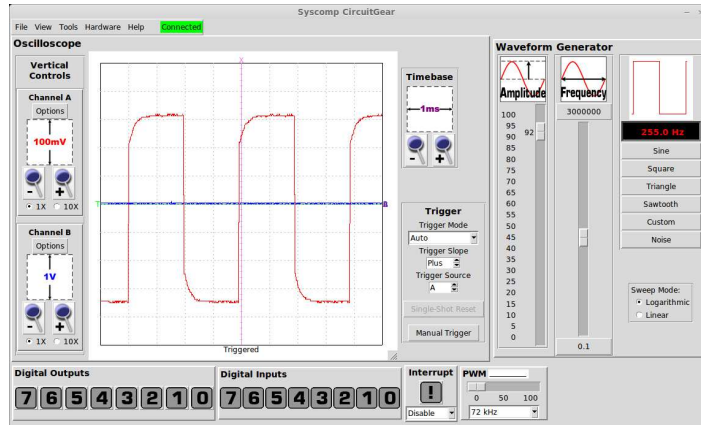
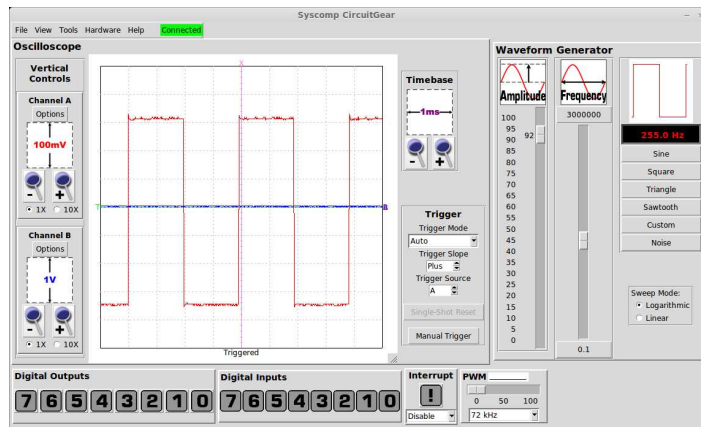
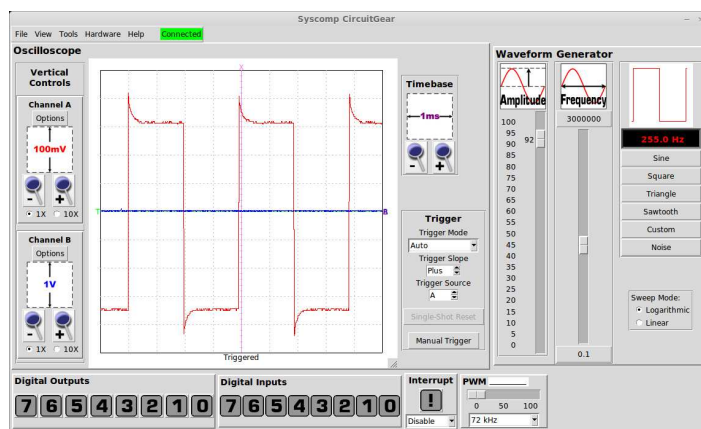

Figure 2: Undercompensated
Figure 3: Correctly Compensated
Figure 4: Overcompensated
6. Now refer to figure 2 on page 2. Set the generator and oscilloscope controls as shown in that screenshot:
You should see an oscilloscope display that resembles one of the screenshots of figure 2, 3 or figure 4.
7. Insert the blade of a small screwdriver into the hole of the base of the probe. Rotate the screwdriver and you will see the scope trace change from undercompensated (figure 2) through to overcompensated (figure 4). Adjust the trace until it appears as properly compensated, figure 3.